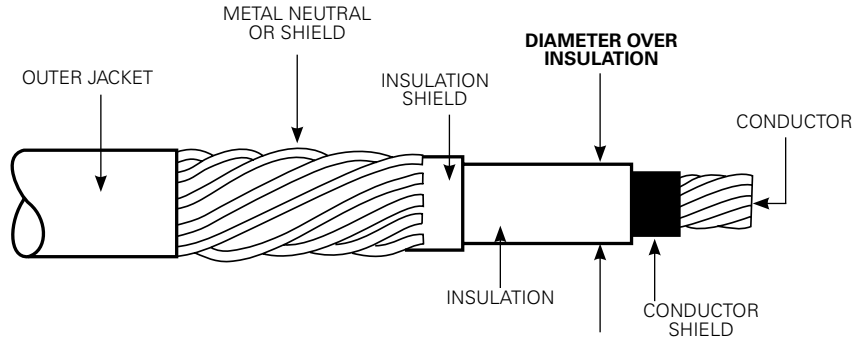

Figure 3. Illustration showing typical construction of medium voltage underground cable.
STEP 1: Determine the cable’s diameter over the electrical insulation as shown in Figure 3 (including tolerances). Then identify a cable range from Table 3 that brackets the minimum and maximum insulation diameters. Select the CABLE RANGE CODE from the far right column.